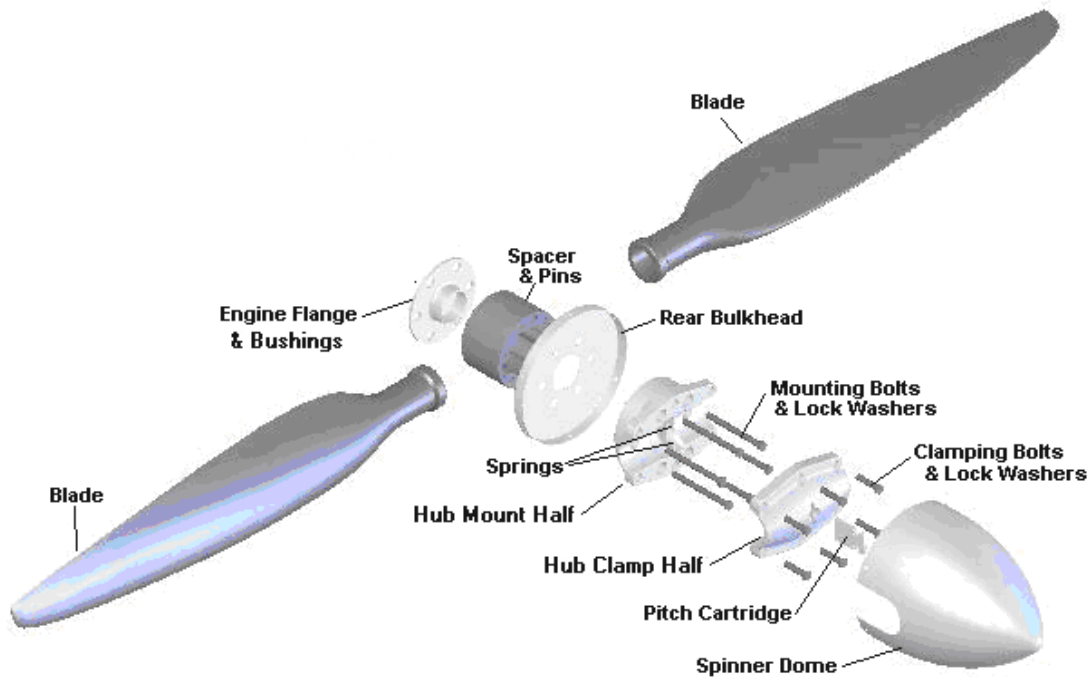
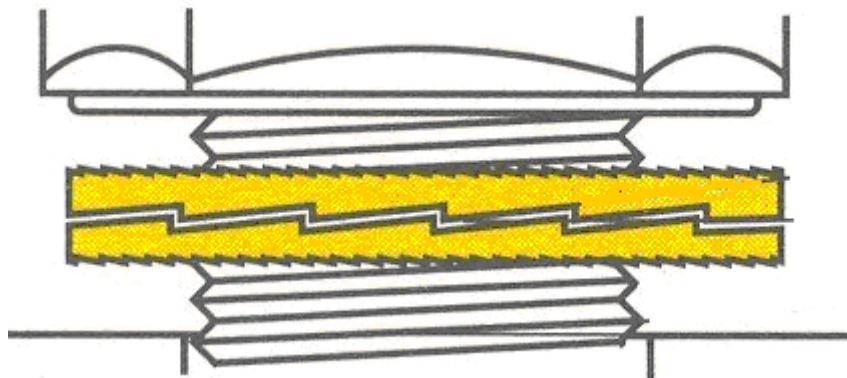
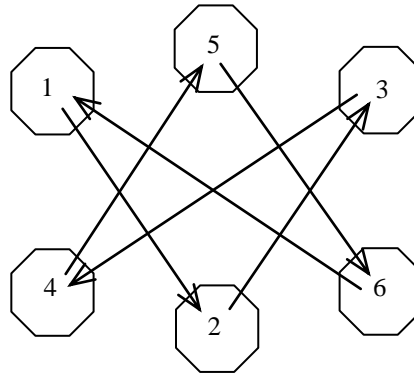

Figure 1
Figure 2
Figure 3
1. Be certain that the magneto switch is "OFF" and that both magnetos are grounded. Chock the aircraft wheels to prevent movement. Clean dirt and oil residue from the engine flange. Refer to **Figure 1** for views of the propeller assembly.
3. Place spacer (if applicable), rear spinner bulkhead, and the hub mount half, as shown in **Figure 1**, on the engine mounting flange. Vertical orientation of the hub is recommended for ease of assembly. The hub and spacer (if applicable) must sit flush on the mounting flange and the rear spinner bulkhead. **NOTE:** Bolt breakage will occur if not flush. Place special lock washers, under the bolt heads, on 6 mounting bolts (AN6-XXA) and insert into the 6 mounting holes inside the hub mount half. Each special lock washer works in pairs with the “ramped” sides facing each other. See **Figure 2**. Position the hub mount half, rear bulkhead, and spacer (if applicable) on the engine flange with the six mounting bolts running through the engine flange. Torque the 6 mounting bolts using a star pattern similar to **Figure 3**. See **Table 1** for mounting bolt torques.
7. Using a calibrated torque wrench and following the pattern shown in **Figure 3**. Tighten the bolts in $\frac{1}{4}$ to $\frac{1}{2}$ turn increments (this will take several passes) until the proper torque given in **Table 1** is reached.